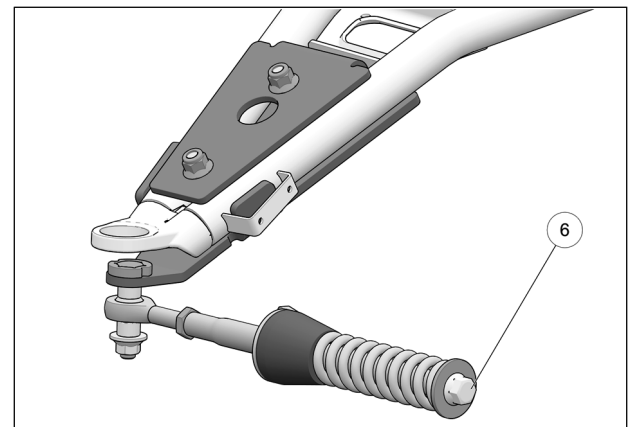

Fig. 16
8. Verify that spring assembly bolt (6) is tightened to the recommended torque specification: 75 N•m [55 lb•ft]. Refer to Fig. 16